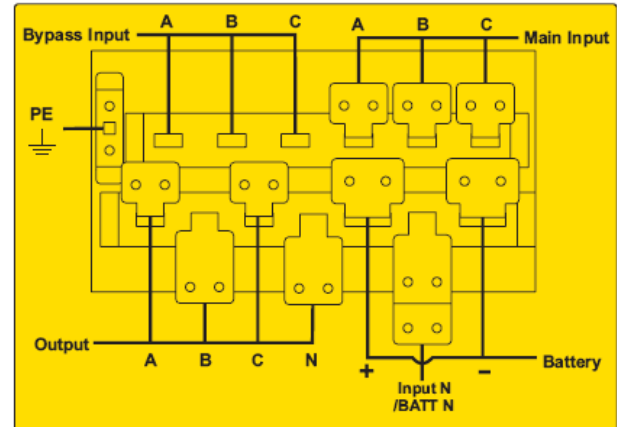

Fig. 23. Connections terminals.
2. Open the back door of the cabinet, remove the plastic cover. The input and output terminal, battery terminal and protective earth terminal are shown in Fig. 23.